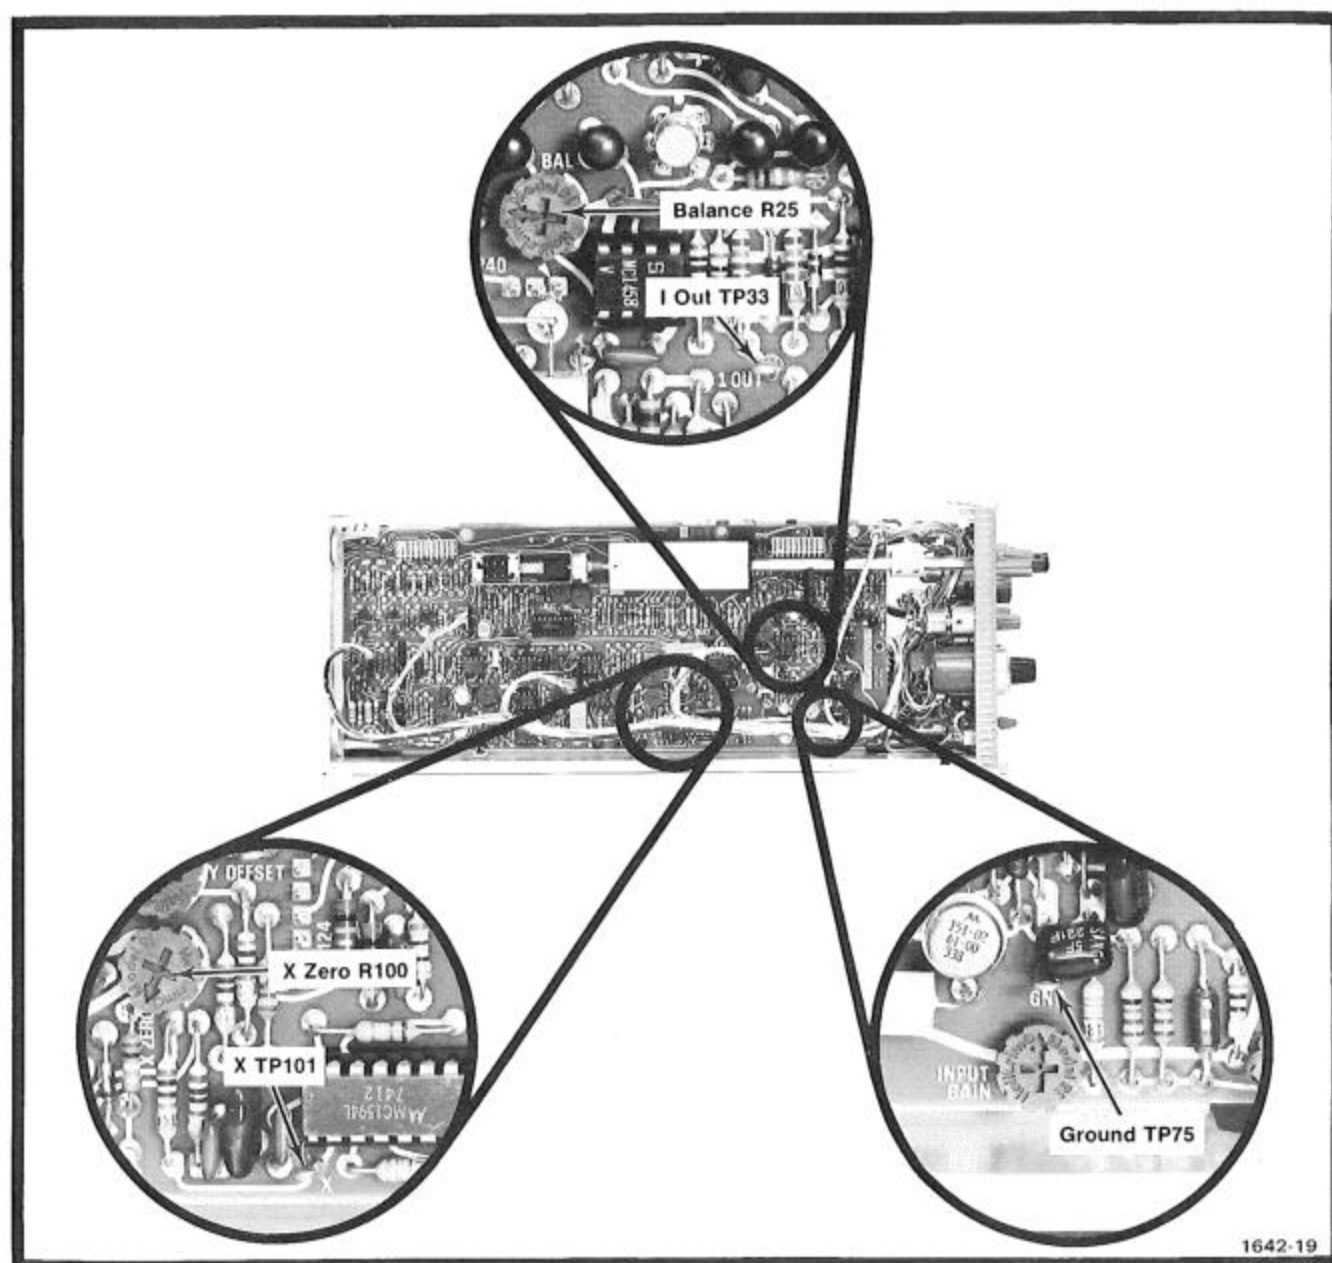

Fig. 5-14. Location of Input Vertical Amplifier balance test points and adjustments.
b. Connect the negative meter lead of the DVM to the ground test point TP 75 (see Fig. 5-14) on the Vertical Circuit Board, and the positive meter lead to the I Out test point TP 33 (see Fig. 5-14) on the Vertical Circuit Board.
d. ADJUST—Balance R25 (see Fig. 5-14) for a meter reading of exactly 0 V.
e. Move the positive DVM meter lead from test point TP 33 to the X test point TP 101 (see Fig. 5-14).
g. ADJUST—X Zero R100 (see Fig. 5-14) while pressing the BASELINE RESTORE pushbutton for a meter reading of exactly 0 V.